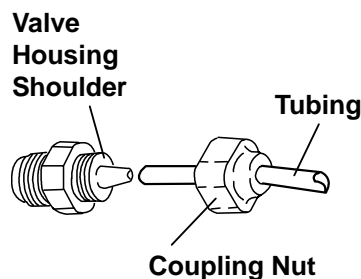
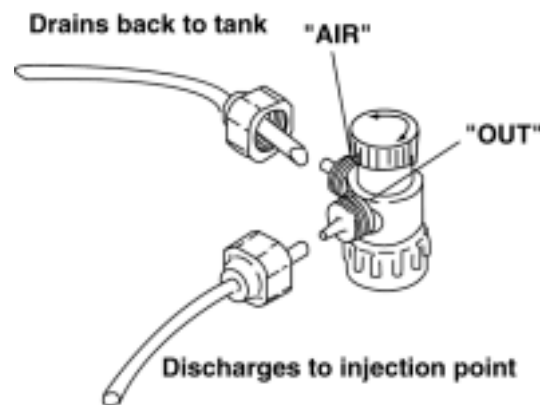

Figure 5 Attach Tubing
Figure 6 Air Vent Valve Tubing
Attach tubing as shown in Figure 5. First slide the coupling nut, small end first, onto the tubing. Push the tubing over the valve housing tip *all the way to the valve housing shoulder*. (Tip: if the tubing is stiff from cold, dip the tubing end in hot tap water for a few minutes so it will slide on and flare out more easily. Push the coupling nut onto the threads. Apply some pressure on the coupling nut and tubing while tightening the nut, making sure the tubing has not backed off of the shoulder of the valve housing.
Attach tubing as described in section 2.3 and as shown in Figures 5 and 6. Note: Some models have an air vent valve with two outlet connections. The connection marked 'OUT' is the discharge side to the application point. (Fig 6). Attach a second length of tubing to the air vent side marked ('AIR') and route back to the chemical solution tank or drum. On the larger pumps (30 & 35 sizes), the air vent valve connections are not marked, however, the discharge side is the vertical (UP) connection and the air vent connection is on the side of the valve.